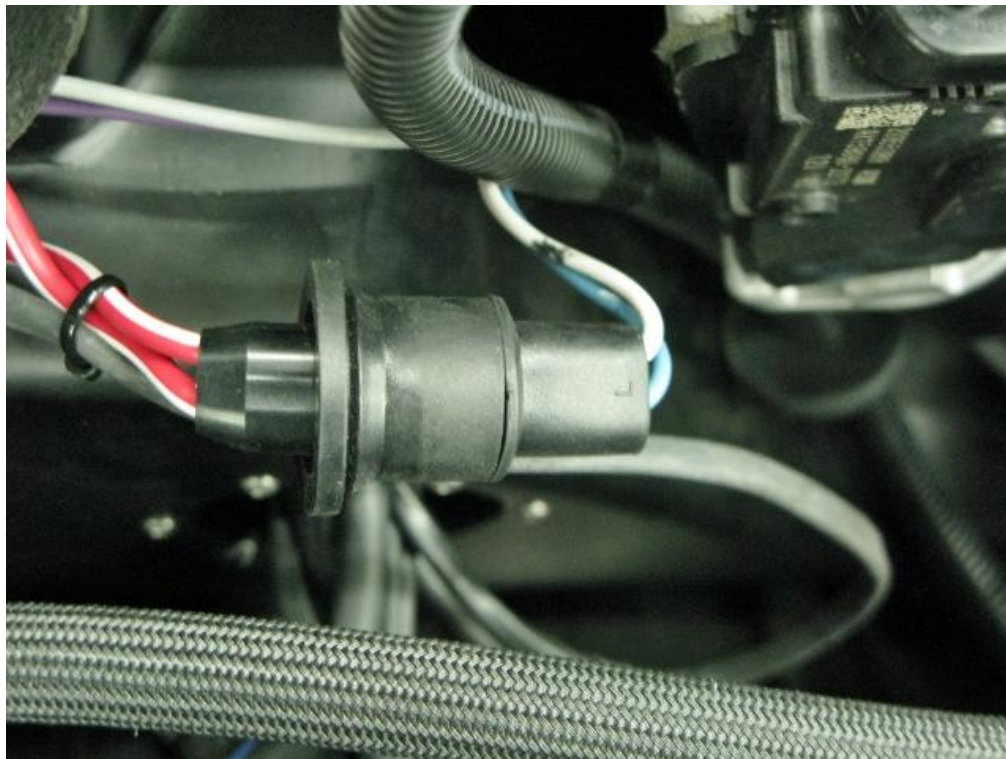

Figure 35 – Wiper Door Limit Switch Connector
49. Connect the wiper door limit switch connector from the the wiring harness to the limit switch connector (Figure 35).